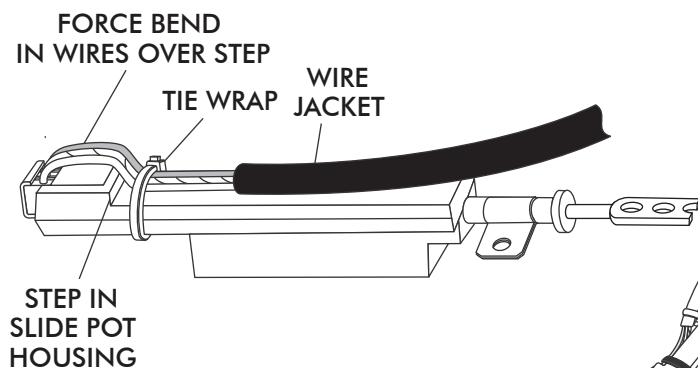

FIGURE 7b
- ONCE WIRES ARE CORRECTLY PLUGGED INTO SLIDE POT ASSEMBLY, SECURE WIRES TO THE SLIDE POT ASSEMBLY USING TIE WRAPS (SUPPLIED). SEE FIGURE 7b, BELOW. THE TIE WRAP MUST BE LOCATED BETWEEN THE END OF THE WIRE JACKET AND THE STEP IN THE SLIDE POT HOUSING FORCING A BEND IN EACH WIRE AS THEY PASS OVER THE STEP IN SLIDE POT HOUSING. HEAD OF TIE WRAP MUST FALL ON EDGE OF HOUSING AS SHOWN TO REMAIN TIGHT. ENSURE THAT THE TIE WRAPS ARE SNUG ENOUGH THAT THE WIRES CANNOT MOVE. SEE FIGURE 7b.